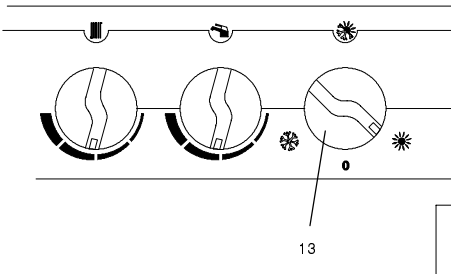

fig. 2.5
- 4 If domestic hot water supply only is required, position the function switch (13) as in fig. 2.5 (Combination boilers only).